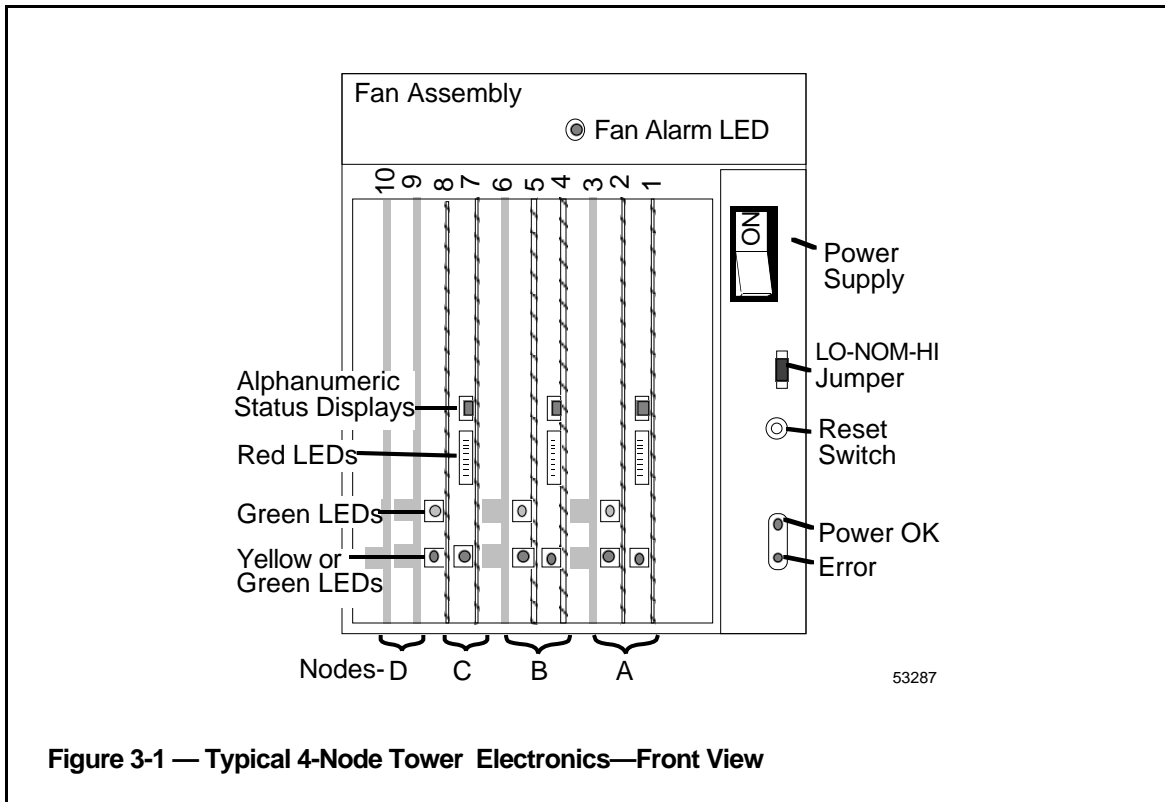

Figure 3-1 — Typical 4-Node Tower Electronics—Front View
2. You now have access to the front of the Multinode Module in tower #1. Locate the power switch (see Figure 3-1). Before turning power on, ensure the **LO-NOM-HI** jumper just below and to the right of the power switch is set in the **NOM** or center position. This is a maintenance jumper that is not to be changed by the user.
3. Compare your module with the Figure 3-1 illustration. Note the module contains four nodes and each node has a processor board in the first board slot and a personality or peripheral board in the second slot. Nodes have unique numbers from 1 to 8 (not A, B, C, D as in the figure) and are factory set. You will identify the node numbers in an upcoming test. Other board slots may or may-not contain boards, therefore, are shown shaded. Note a horizontal row of green LEDs along the bottom, with another row of either yellow or green LEDs just above them. Note each processor board contains a display containing several red LEDs and a red alphanumeric status display.